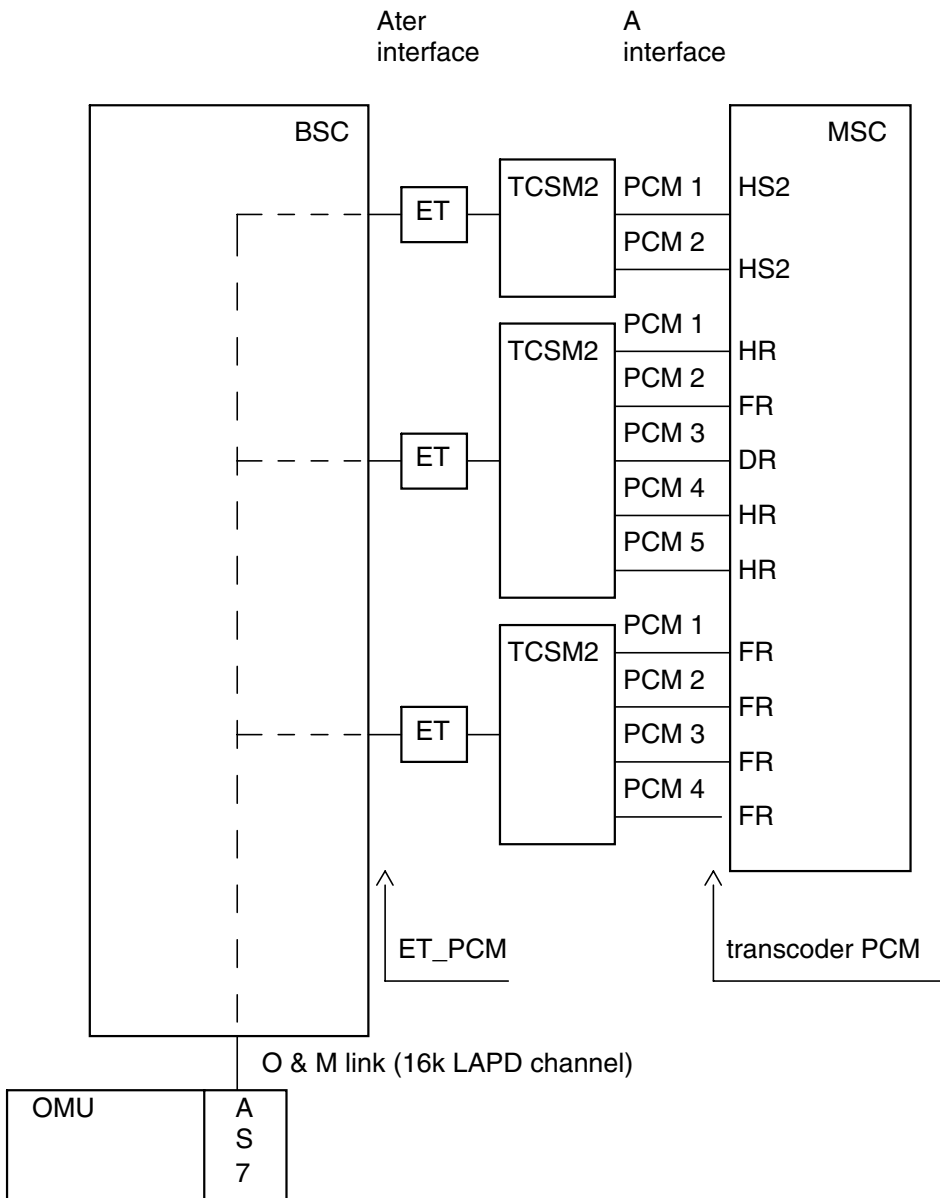
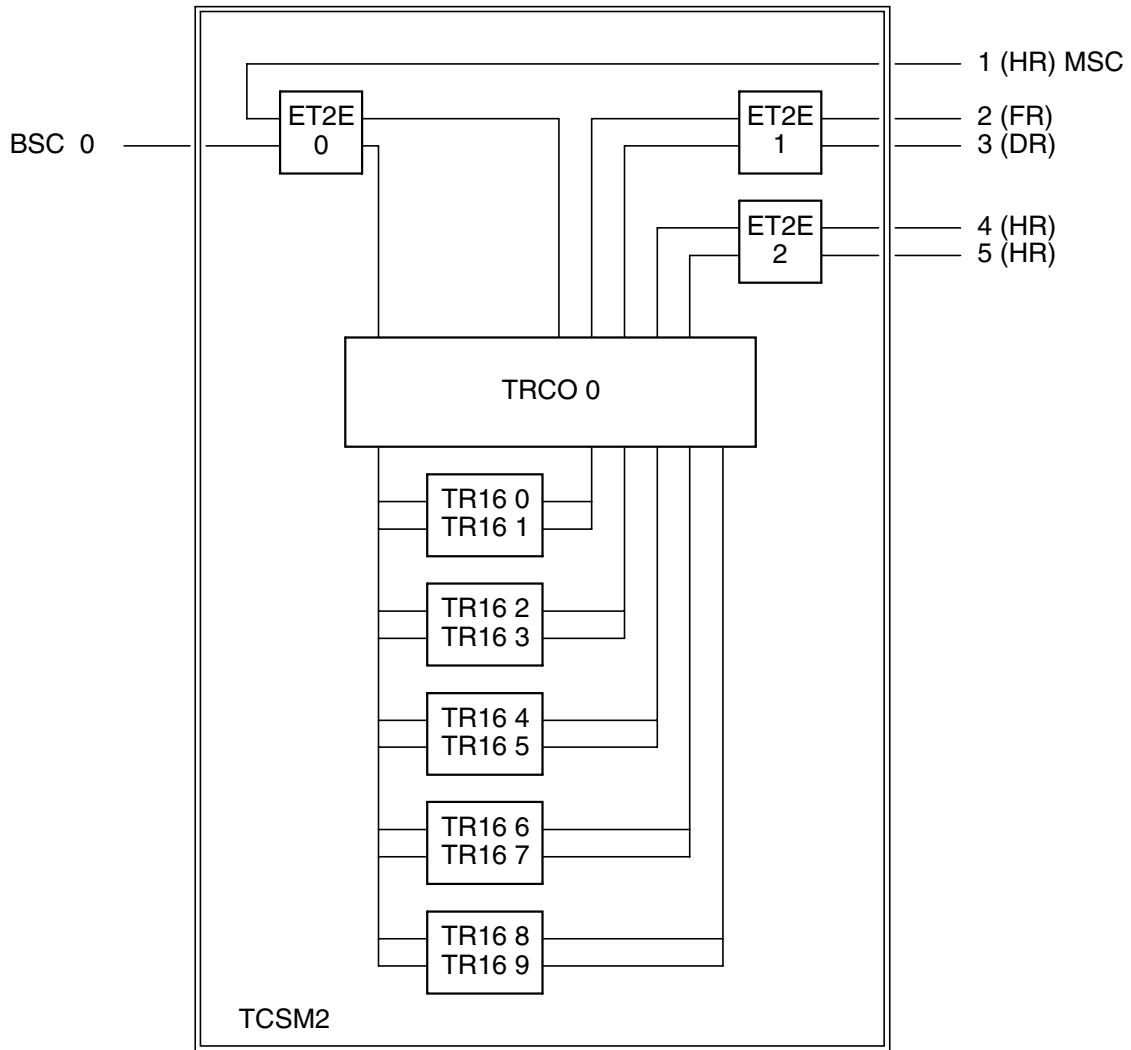

Figure 1. An example of the environment of the second generation TCSM
Figure 2. Configuration of the second TCSM (in Figure 1)
- Figure 1. An example of the environment of the second generation TCSM **12**
- Figure 2. Configuration of the second TCSM (in Figure 1) **13**